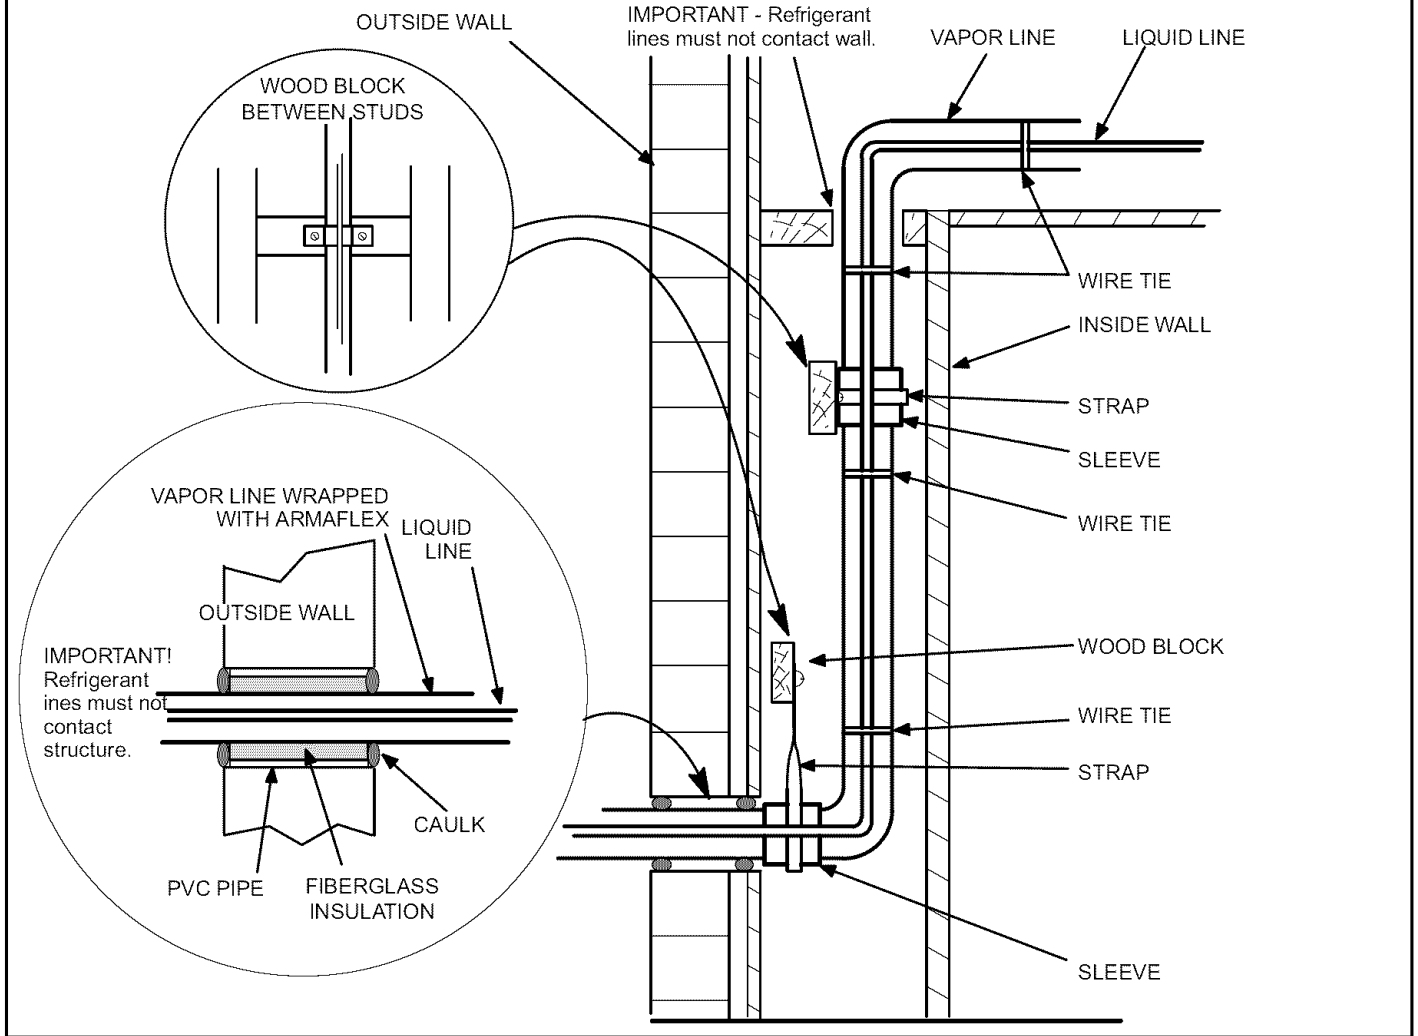
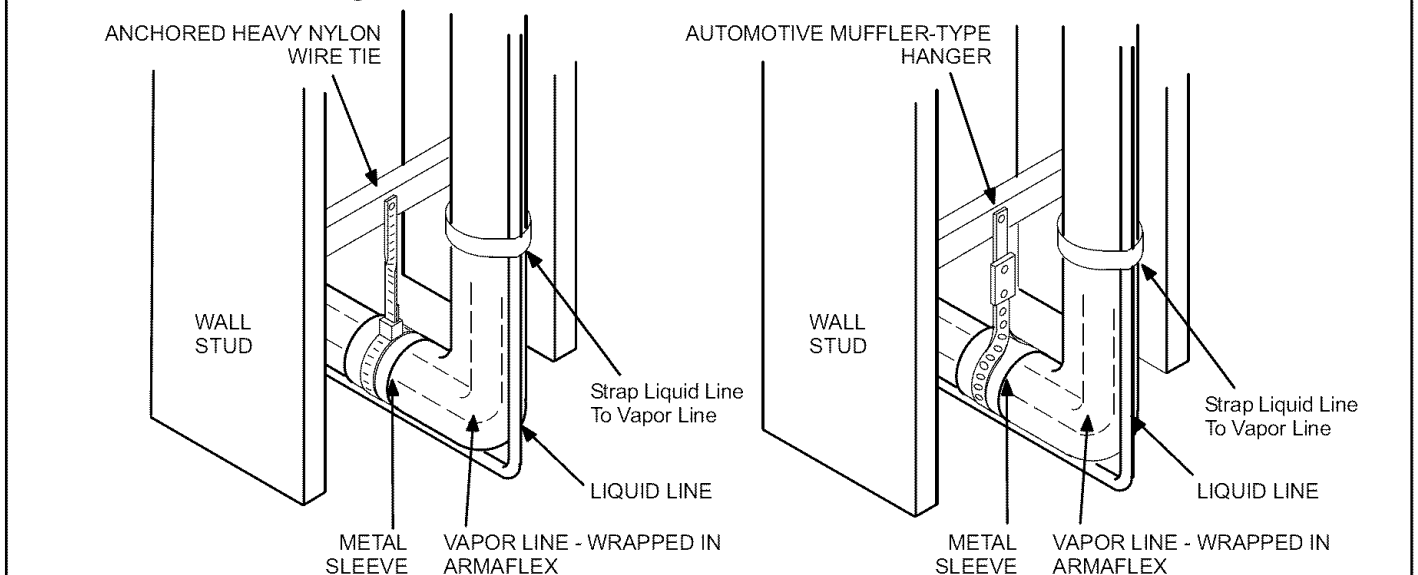
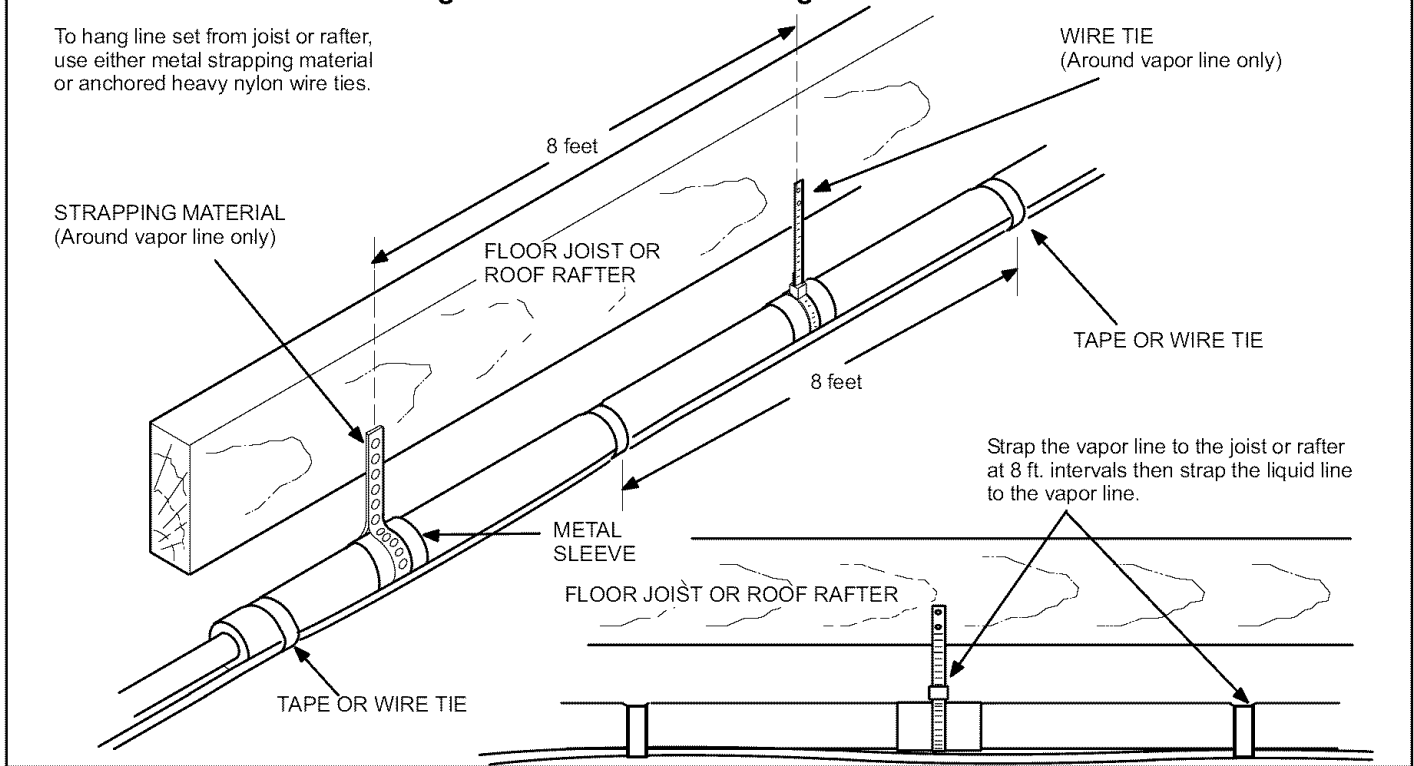

Figure 5
Figure 6
Figure 7
2. **Line Set Isolation** - The following illustrations demonstrate procedures which ensure proper refrigerant line set isolation. Figure 5 shows how to install line sets on vertical runs. Figure 6 shows how to make a transition from horizontal to vertical. Figure 7 shows how to install line sets on horizontal runs.